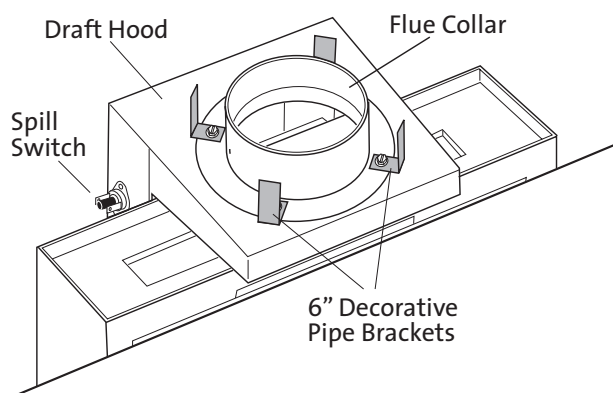

Figure 27. Decorative pipe attachment.
1. Remove the four 1/4" hex head screws that attach the 4" Flue Collar to the draft hood, but do not remove the Flue Collar. See Figure 27.
NOTE: This appliance is equipped with a Spill Switch which will disable the burner in the event that the vent system becomes blocked. Located on the side of the Draft Hood, at the back of the stove, the switch has a reset button that, when pressed, will re-enable burner function. See Fig. 27.